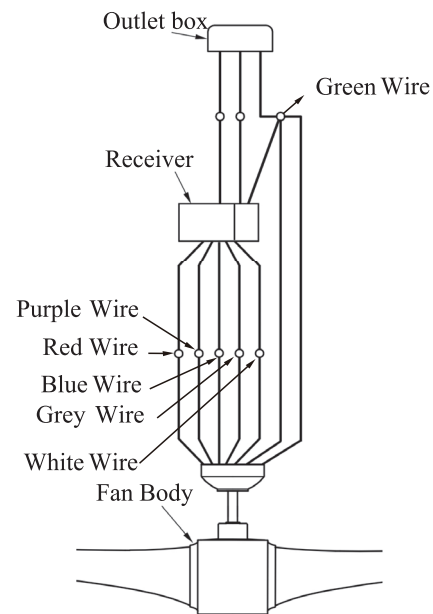

FIG.9
2. Connect the red wire from receiver to the red wire from fan with wire nut. Connect the purple wire from receiver to the purple wire from fan with wire nut. Connect the blue wire from receiver to the blue wire from fan with wire nut. Connect the grey wire from receiver to the grey wire from fan with wire nut. Connect the white wire from receiver to the white wire from fan with wire nut. Connect the green or bare copper wire from outlet box to the green wires from receiver, hanger bracket and down rod ball with wire nut. (See fig.9)